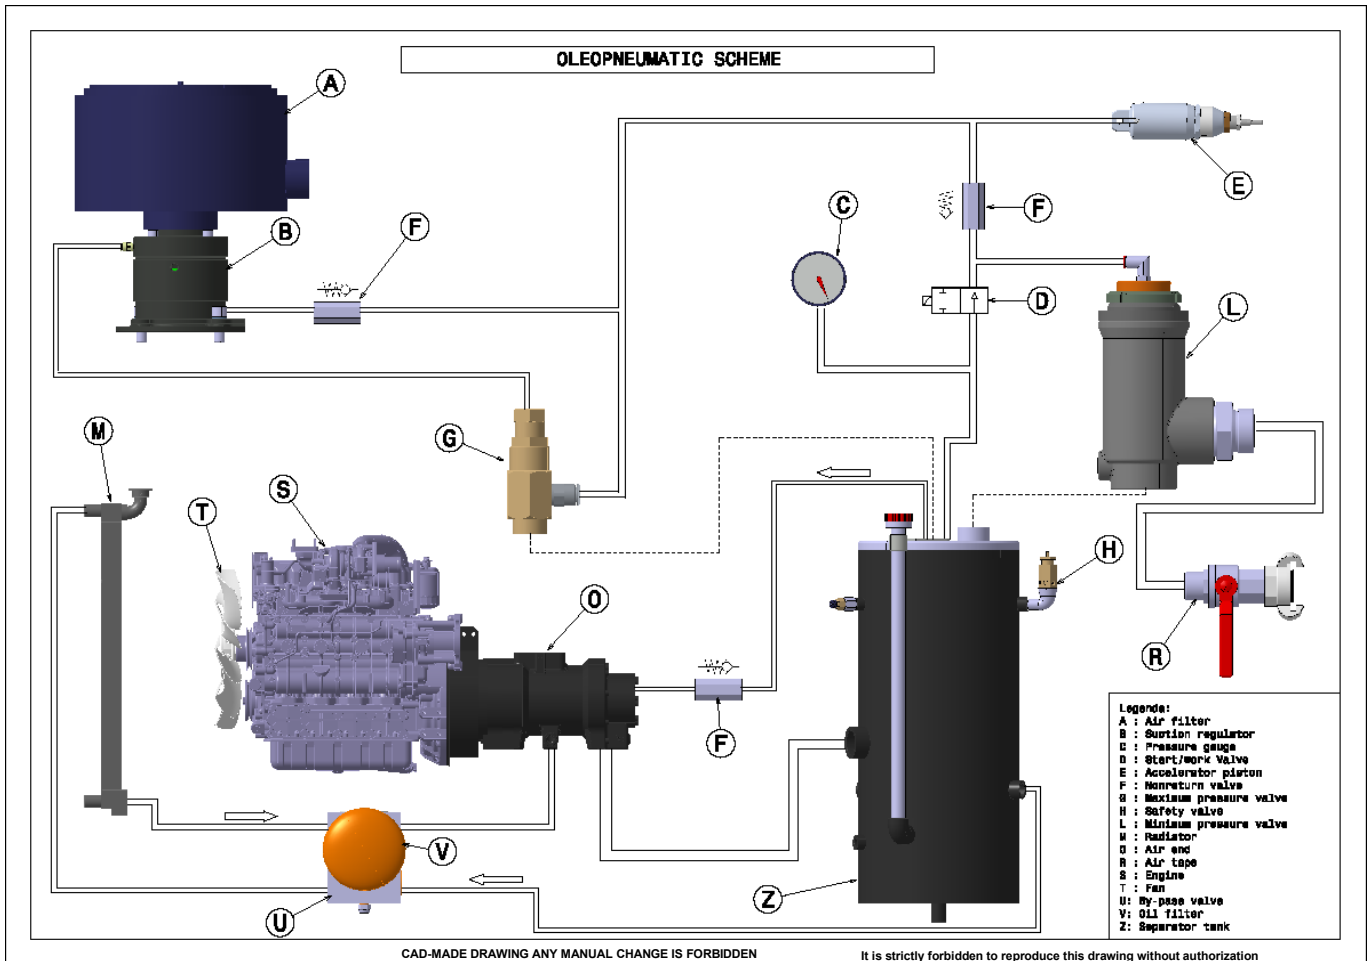

Figure 8.4-1 Hydraulic and pneumatic systems
As shown in fig.8.4-1 the lower part of the oil separator tank (Z) acts as an oil tank, with the filtering part is situated at the top which separates the air from the oil.